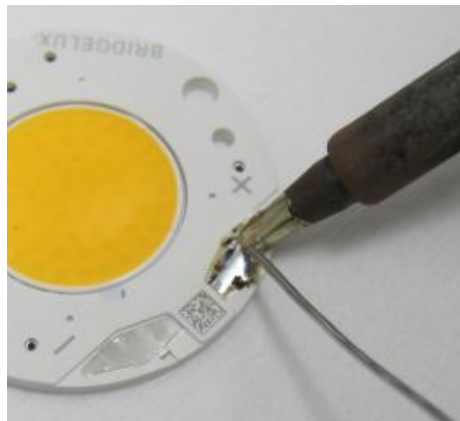

Figure 12: Pre-tin solder pads
- B. Apply solder to the solder pad and solder tip, allowing sufficient time for the solder to wet. The solder should form a small dome shape on the solder pad (see Figure 12).